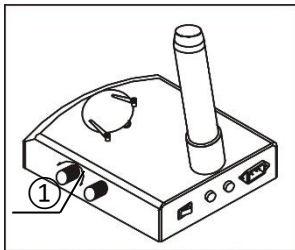

Fig. 9
- 1) Turn the adjustable light knob ① according to the sign marked on the base, along the clockwise the brightness will be added, otherwise it will be weakened. (Fig.9)